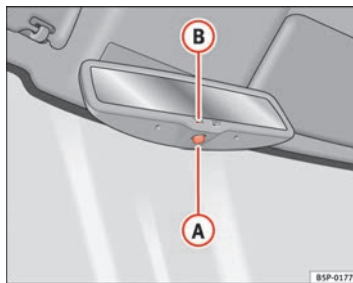

Fig. 90 Automatic anti-dazzle interior mirror.
- Press button **A** ⇒ fig. 90. Indicator lamp **B** goes off.
- Press button **A** ⇒ fig. 90. Warning lamp is lit.